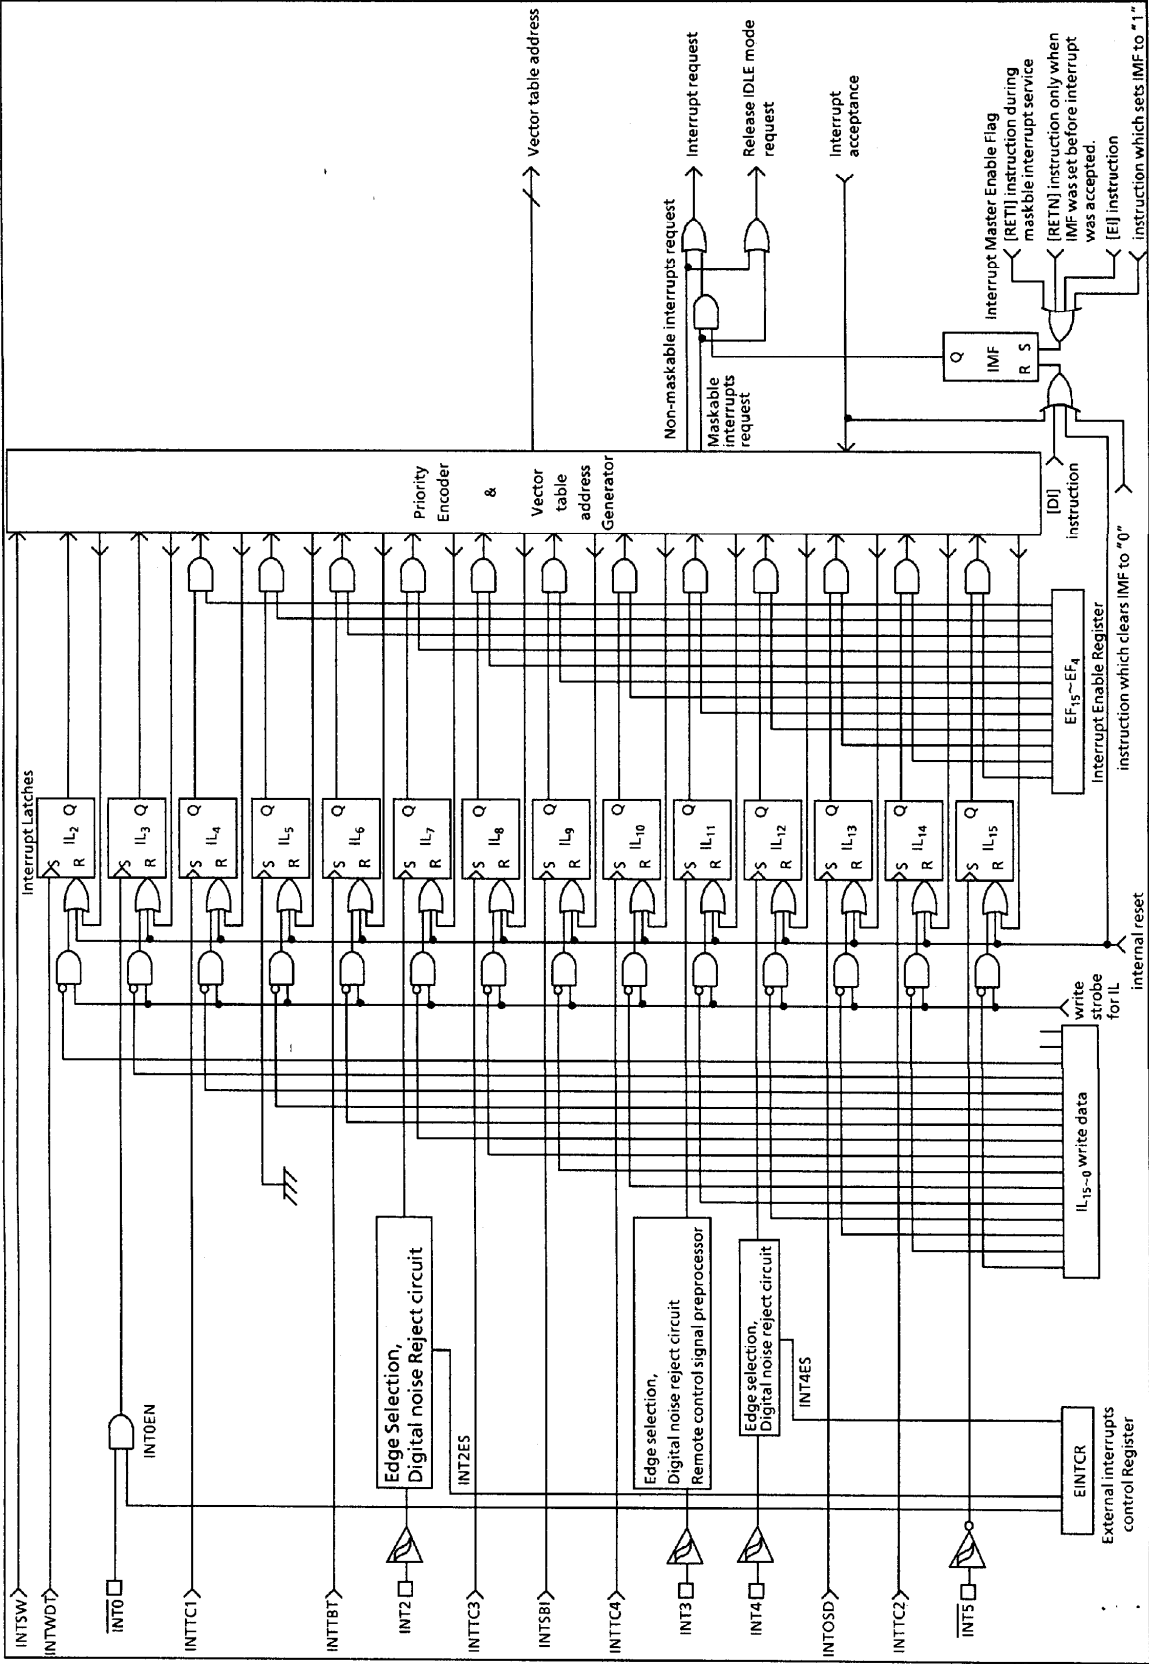

Figure 1-21. Interrupt controller block diagram
The interrupt latch is set to "1" when an interrupt request is generated and requests the CPU to accept the interrupt. The acceptance of maskable interrupts can be selectively enabled and disabled by the program using the interrupt master enable flag (IMF) and the individual interrupt enable flags (EF). When two or more interrupts are generated simultaneously, the interrupt is accepted in the highest priority order as determined by the hardware. Figure 1-21 shows the interrupt controller.